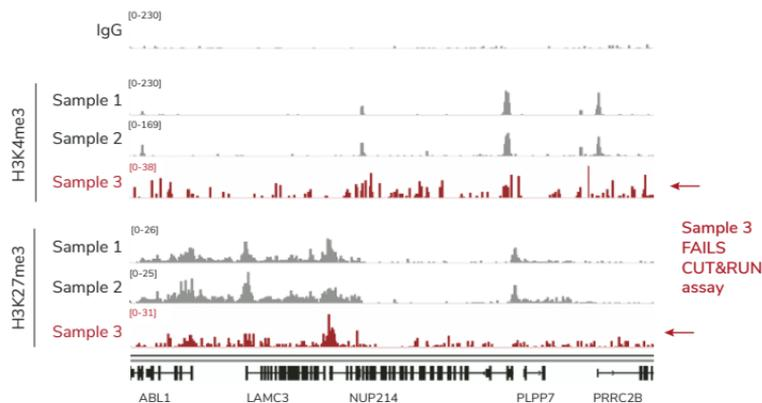

FIGURE 17
- Genomic profiles agreed with spike-ins: Samples 1 & 2 generated expected tracks for H3K4me3 & H3K27me3, while Sample 3 profiles had poor S:N (Figure 17).